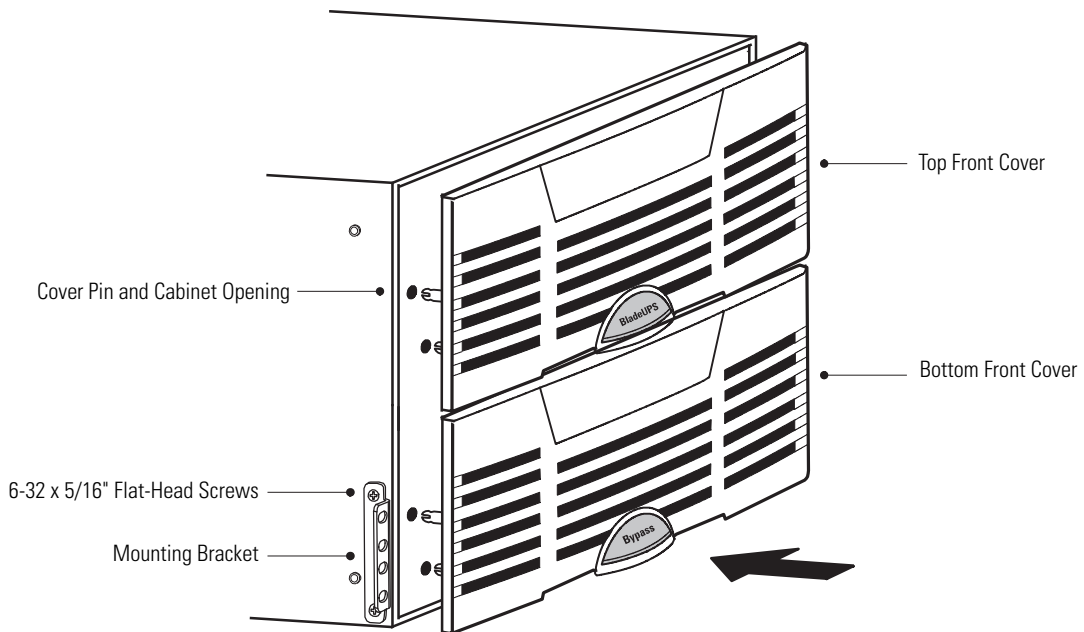

Figure 8. Installing the MBM Mounting Brackets and Front Covers
8. If the mounting brackets are not already installed, align the two mounting brackets with the screw holes on the side of the MBM and secure with the supplied 6-32 x 5/16" flat-head screws (see Figure 8).
Align the pins on the rear of each cover with the openings in the MBM cabinet. Push the cover firmly into place. See Figure 8.